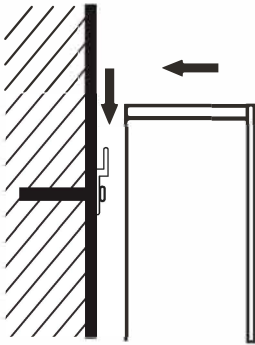
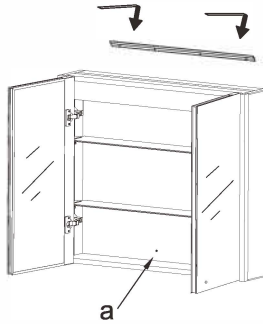

Fig. 3
Fig. 4
2.1 Attach the mirror cabinet to the bar as shown in Fig. 3, open the cabinet door and mark on the wall with a pencil (Fig 4) through the back panel hole (a)
2.3 Repeat the operation as shown in Fig. 3 and mount the mirror cabinet onto the mounting bracket.